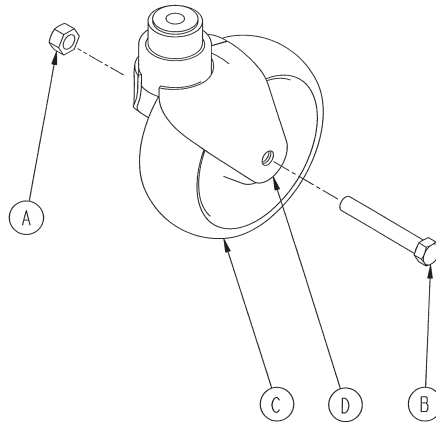

Figure 1 – Caster maintenance
2. Using a 5/8" combination wrench and an 11/16" combination wrench, remove the lock nut (A) from the bolt (B) (Figure 1). Save the lock nut.